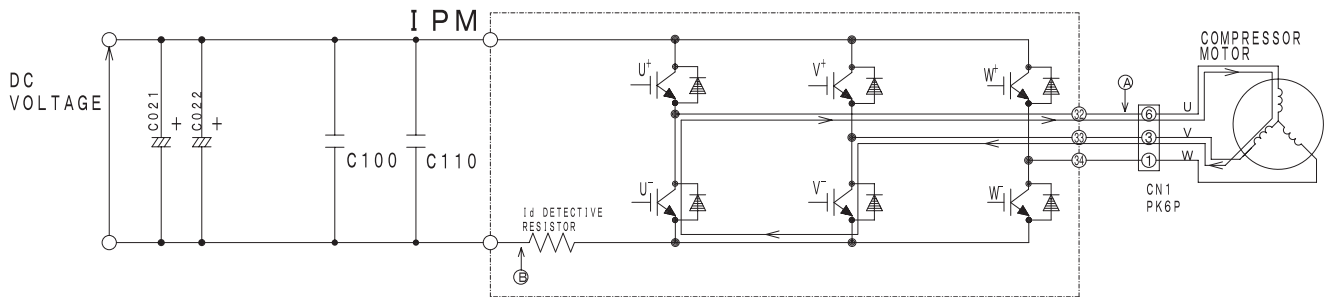

Fig. 3-4 Power module circuit (U+ is OFF, V- is ON)
At point ⑥: U+ is chopped (OFF), V- is ON (circuit in Fig. 3-4)
- (2) When U+ transistor is OFF: (by inductance of motor coil) U coil → V coil → V- transistor → U- diode → Point ⑤ (Fig. 3-4)